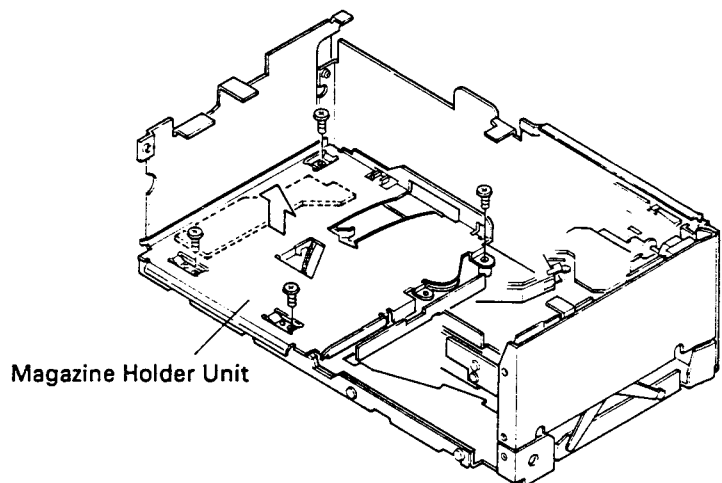

Fig. 12
- 17. Remove four screws and detach the magazine holder unit. (Fig. 12)